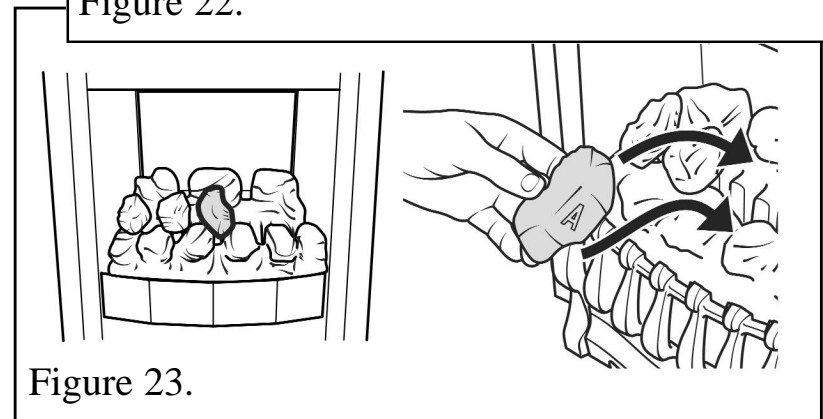

Figure 23.
5. Place a type “A” coal between the front and rear base coals with the letter “A” upright. The top of the coal should rest against the centre coal of the rear base coal as shown in figure 23.